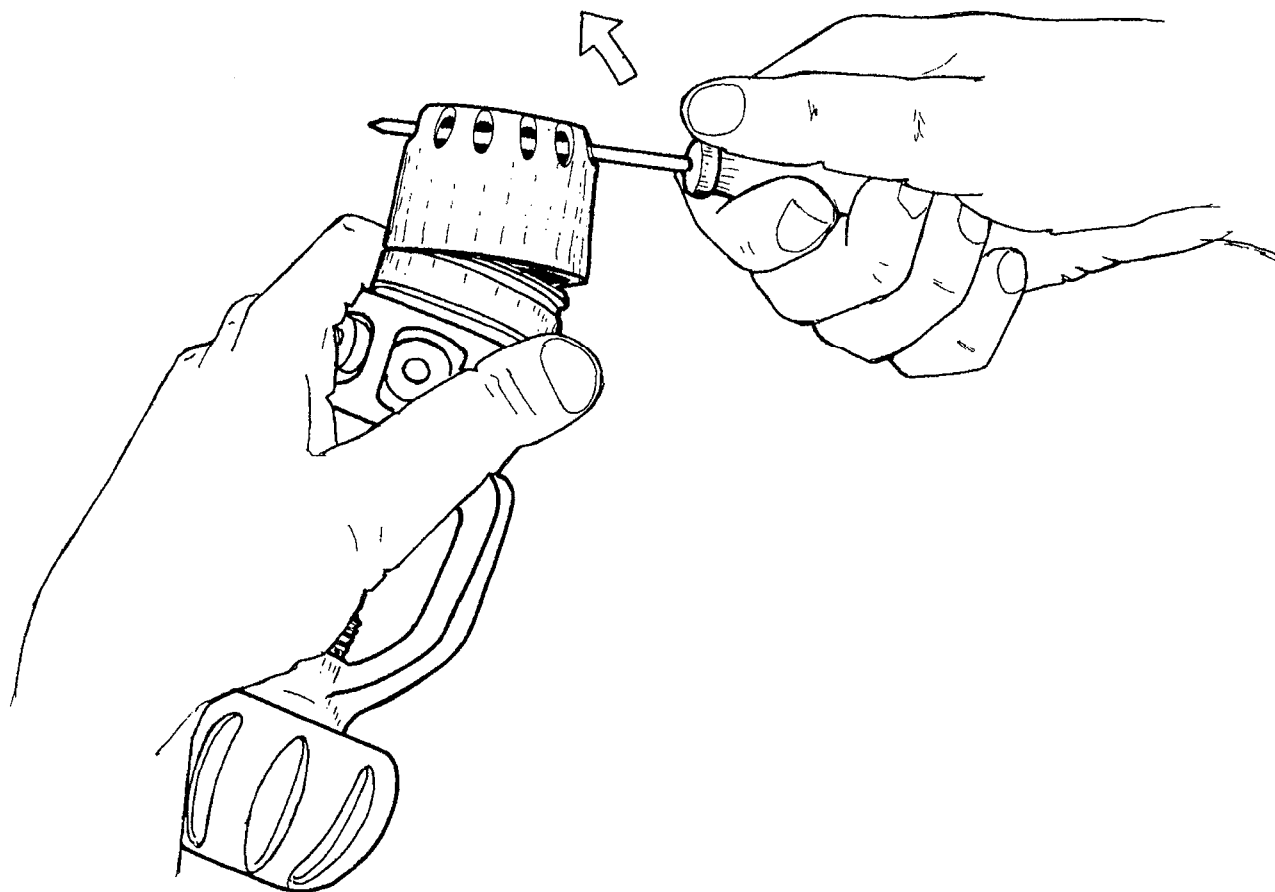

FIG. 1
2. With a small screwdriver, remove the protection (158) (Fig. 1).